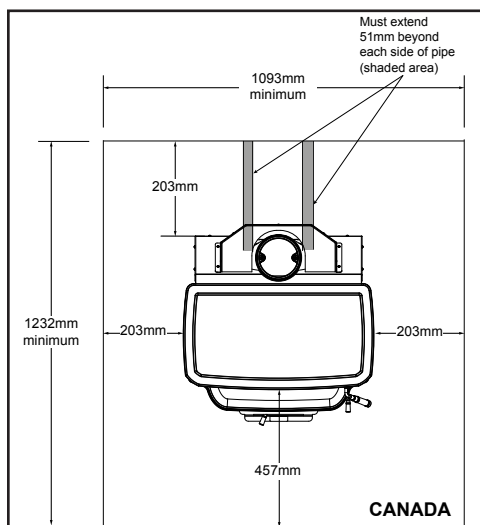

Figure 8.2
In Canada, similar floor protection must be provided 18 inches (457mm) in front and 8 inches (203mm) from the sides and rear of the appliance. **Figure 8.2**
***EXCEPTION:** Non-combustible floor protections must extend beneath the flue pipe when installed with horizontal venting and extend 2 inches (51mm) beyond each side. **See Figure 8.2**